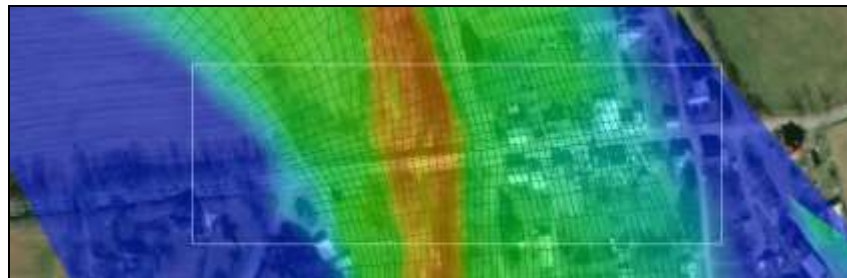

Figure 8 Zoom in to this area
3. **Zoom**  in to the area in the rectangle in Figure 8.